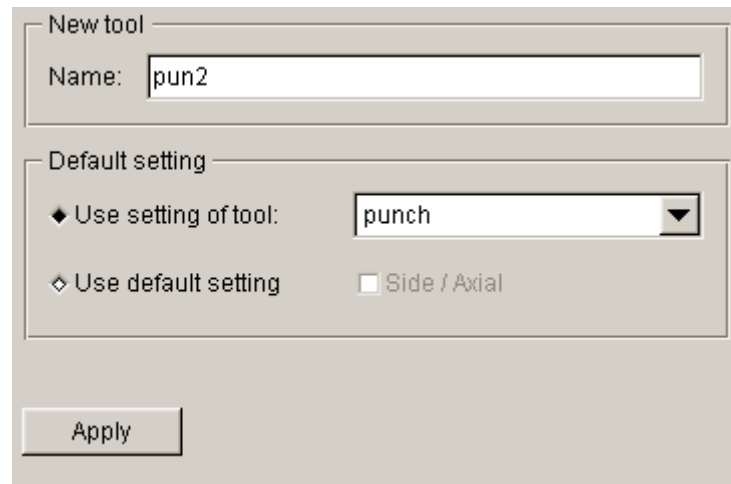

Figure 5.59 Create new tool
31. From tool definition interface, click **New tool** button to create a new tool named **pun2**. Select the default setting shown in Figure 5.59. Then, press **Apply** button.